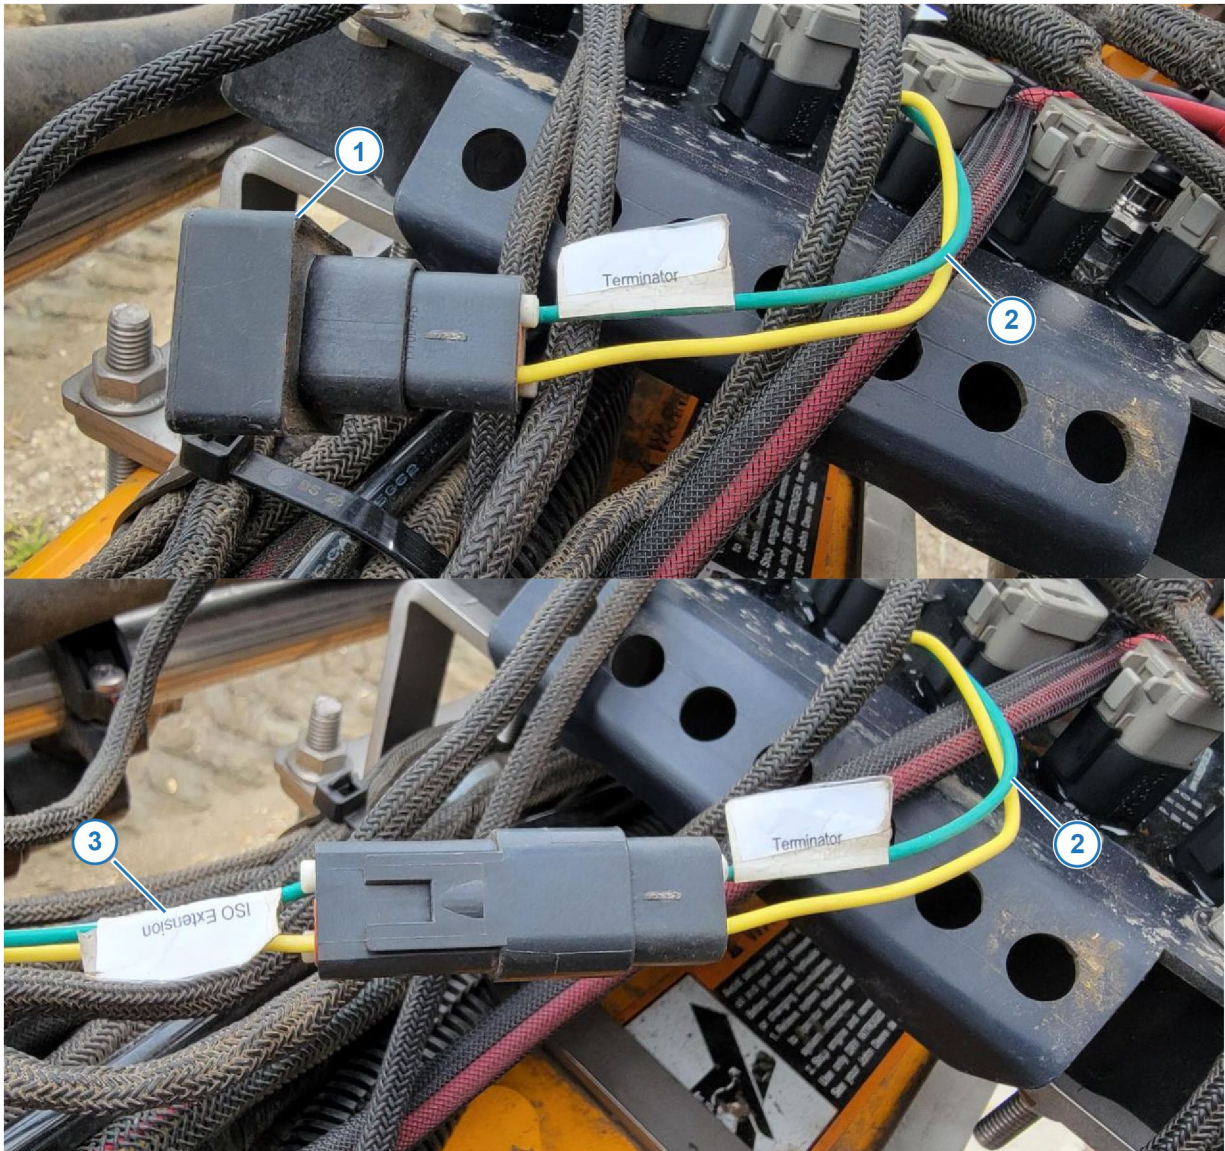

Figure 7 — ISO CAN BUS Harness
8. *Figure 7:* Most machines are not equipped with a direct chemical injection system however some machines may have this system installed. Use the appropriate procedure:
- If machine DOES NOT have a direct chemical injection system, leave Terminator (1) plugged into Terminator plug harness (2). Leave ISO Extension plug dust capped.
- On machines which DO use a direct chemical injection system, remove Terminator from Terminator harness and connect ISO Extension harness (3) to Terminator plug.